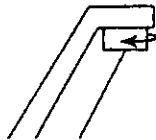

Figure 3
3. Remove the existing faucet aerator by unscrewing. If the faucet aerator is difficult to remove, a pair of pliers with padded jaws may work. (See Figures 3 & 4.)